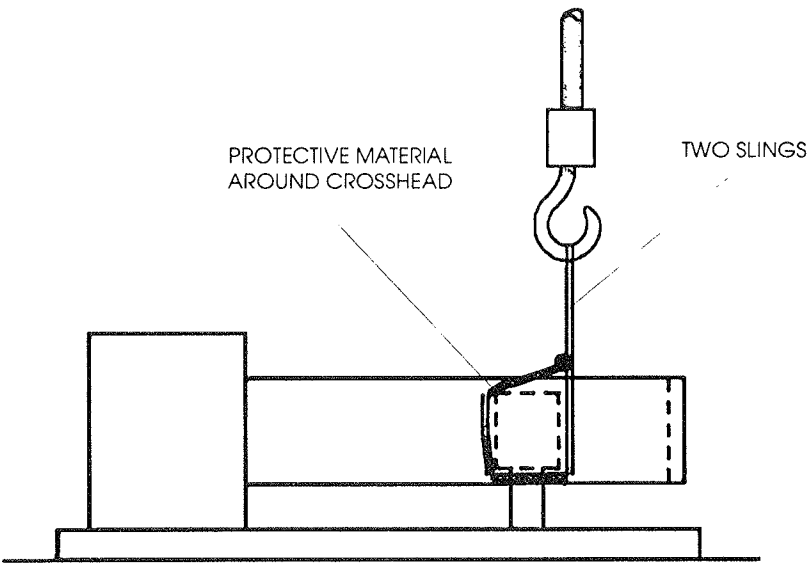

Figure 3-1. Initial Position
- (b) Attach the two lifting slings to the crosshead and secure them to the crane hook as Figure 3-1 illustrates.